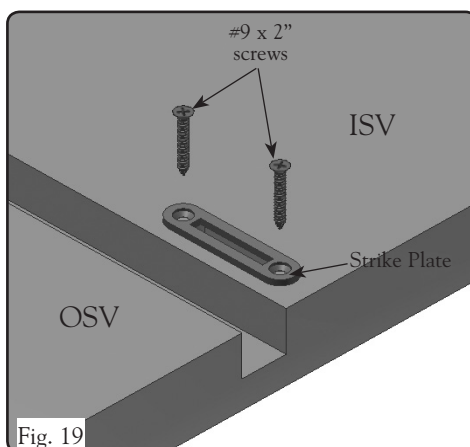

Fig. 19
See Fig. 19. To secure the sill to the flooring, you must first remove the screws at each end of the oak threshold and every other screw in between. Next, drill a 3/16" (5mm) clearance hole through the existing hole locations on the oak threshold. The hole should pass through the oak threshold and sill, stopping short of the underlying floor system. A 7/64" (3mm) lead hole should then be drilled through the clearance hole into the underlying floor system (if anchoring into a concrete floor, drill a 3/16" (5mm) lead hole). Masonry screws supplied by others.
Next you will need to locate the strike plate packet. In this packet will be a hole cover (color black), strike plate and two (2) #9 x 2" screws. Sealant will need to be filled into the strike plate hole about 1/4" of the way up. Insert the hole cover. Drill two (2) 5/32" diameter screw holes, (if anchoring into a concrete floor, drill a 3/16" (5mm) lead hole) then place strike and screw into place. See Fig. 19.